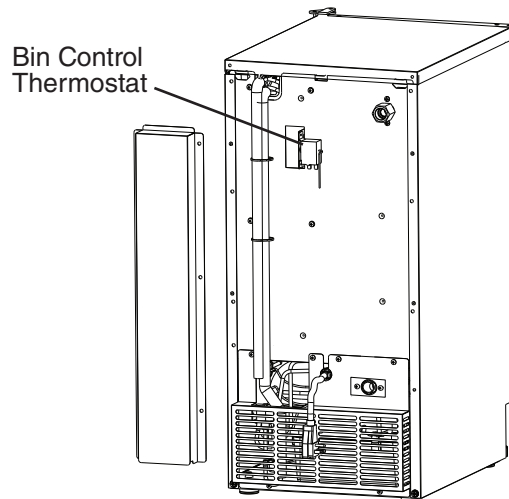

Fig. 34
- 10) To confirm bin control operation, hold ice in contact with the bin control thermostat bulb. **NOTICE! If the icemaker does not stop within 10 seconds, the bin control thermostat must be adjusted. Installation at higher altitude locations are more likely to require adjustment.** See Fig. 34.